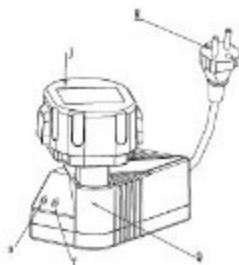

Fig.2
● CHARGING THE BATTERY (Fig.2)
1. Insert the plug (R, Fig.2) into a 230V AC power outlet. The green LED power light (T, Fig. 2) comes on, indicating the charger is ready for use.
2. Insert the battery pack into the receptacle (Q, Fig.2) in the charging station, making sure it is well sealed in the charger. The red LED light (S, Fig.2) will flash (about one time per sec.), indicating the battery is correctly seated and on charge.
3. If the red LED light (S, Fig.2) flashes quickly (about two times per sec.), and the green LED light (T, Fig.2) is still on, the battery pack is too hot and can not be charged. Remove the battery and allow it to cool for 30 minutes and then re-insert it.